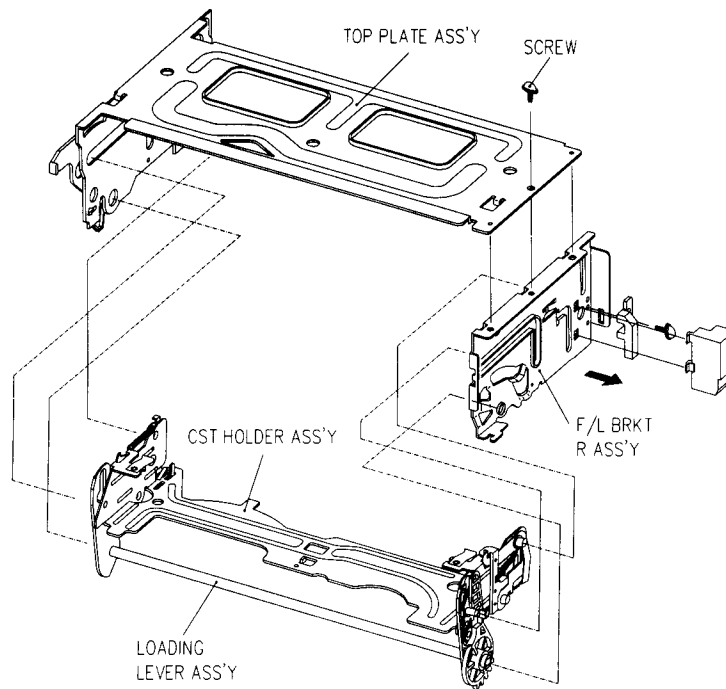

Fig.3-2 DISASSEMBLY OF THE FRONT LOADING ASS'Y
## 3-2. DISASSEMBLY OF THE FRONT LOADING ASS'Y (See Fig. 3-2~3-6)
- b. Remove the CASSETTE HOLDER ASSEMBLY. (Fig. 3-2)